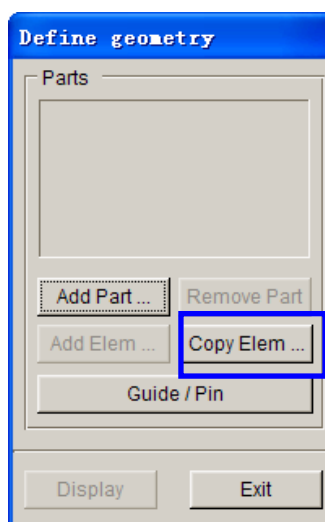

Figure 5.47 Define geometry dialog box
- Click **Parts...** button to display the DEFINE GEOMETRY dialog box illustrated in Figure 5.47.